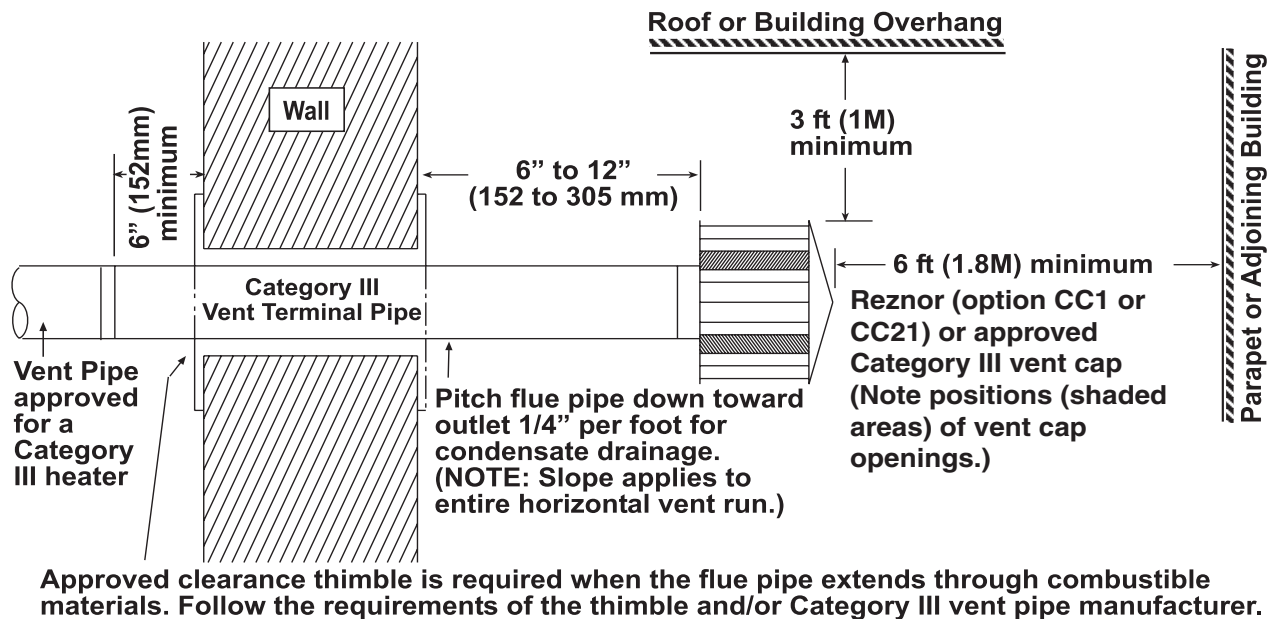

Figure 18. Horizontal Vent Terminal (Residential Installations)
- b. Refer to instructions shown in Figure 18 and to Table 12 to install horizontal vent terminal.